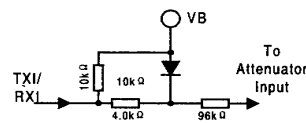

Fig.2 Attenuator Input stage
1. The circuit will switch to transmit if: (A) both transmit level detectors sense signals relative to the respective receive level detectors(TL11 versus RL11, TL12 versus RL12) and (B) the transmit background noise monitor indicates the presence of speech.
2. The circuit will switch to receive if: (A) both receive level detectors sense higher signal levels relative to the respective transmit level detectors and (B) the receive background noise monitor indicates the presence of speech.
3. The circuit will switch to the fast Idle mode if the level detectors disagree on the relative strengths of the signal levels, and at least one of the background noise monitor indicates speech. For example, referring to the Figure 2, if there is sufficient signal at the microphone amp. Output(TL12) to over-ride the speaker signal(RL12), and there is sufficient signal at the receive input(RL11) to over-ride the signal at the hybrid output(TL11), and either or both background noise monitors indicates speech, then the circuit will be in the fast idle mode. Two conditions which can cause the fast idle mode to occur are : (A) when both talkers are attempting to gain control of the system by talking at the same time. And (B) when one talker is in a very noisy environment, forcing the other to continually over-ride that noise level. In general, the fast idle mode will occur infrequently.